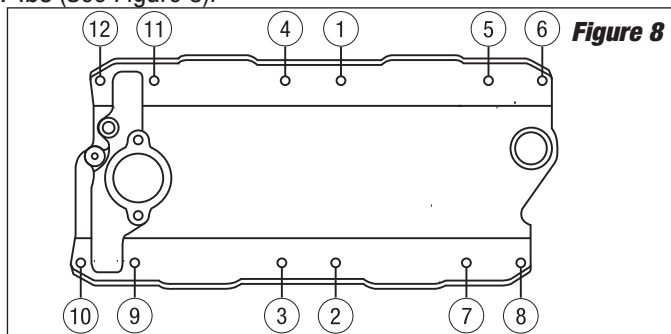

Figure 8
1986 - Earlier Applications will be secured with twelve (12) 3/8 x 1" Compact Hex bolts and 3/8" washers. Torque to 25 ft.-lbs (See Figure 8).